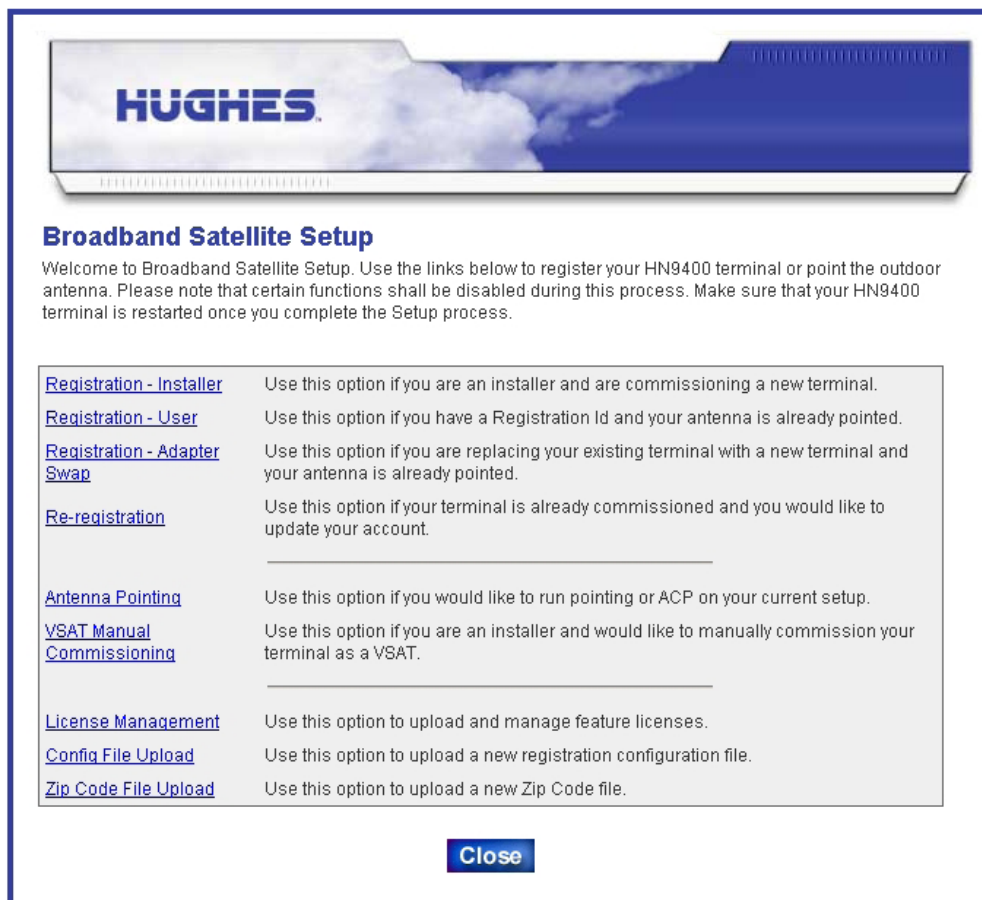

Figure 44: Satellite Setup menu
2. Type `http://192.168.0.1/fs/registration/setup.html` in the browser address bar and press **Enter**. The Satellite Setup menu opens (*Figure 44: Satellite Setup menu* on page 53).